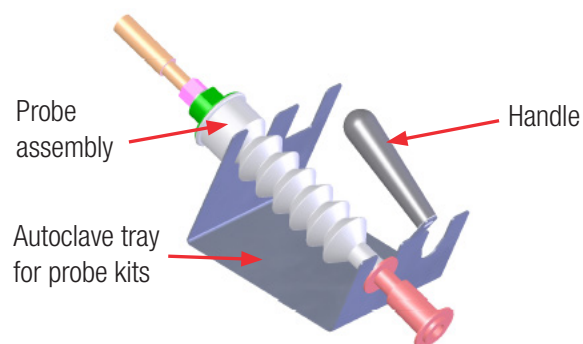

Figure 5.45. Kleenpak probe assembly in autoclave tray.
7. Place the probe assembly with the probe into the autoclave tray for probe kits (Figure 5.45). **Note:** Figure 5.45 shows the autoclave tray used for probes with Kleenpak connectors. Probes with AseptiQuik aseptic connectors use a different autoclave tray.